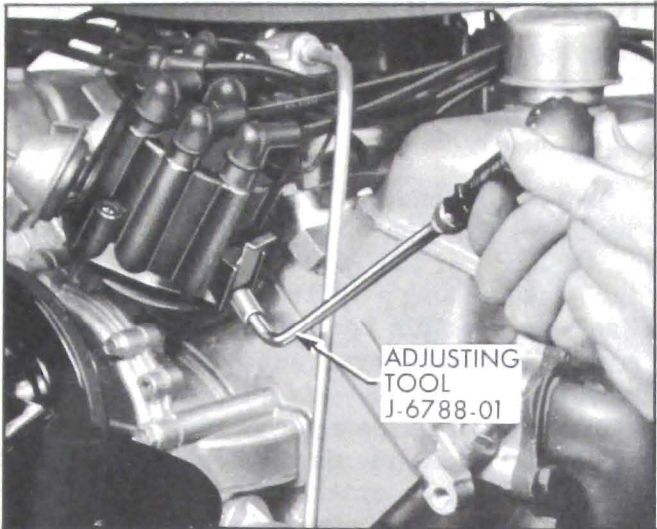

Figure 10-32—Adjusting Contact Point Dwell Angle
3. Start engine. Lift adjustment window and insert 1/8" Allen wrench in adjusting screw. See Figure 10-32. Set dwell angle at 30 degrees.